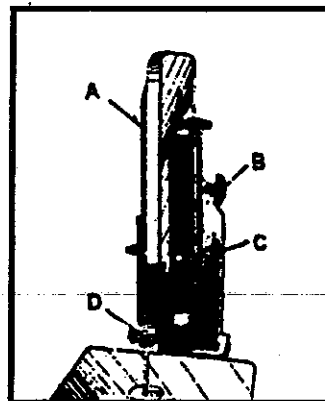

Fig. 19
After tension has been applied to the blade, revolve the wheels slowly forward by hand and watch the blade (A) Fig. 19 to see that it travels in the center of the upper tire. If the blade begins to creep toward the front edge, turn the knob to the left and this will tilt the top of the wheel toward the back of the machine and will draw the blade toward the center of the tire. If the blade creeps toward the back edge, turn the knob to the right. Adjust the knob (B) only a fraction of a turn at a time. Never track the blade while the machine is running.
The upper blade guide assembly (D) Fig. 19, should always be set as close as possible to the top, surface of the material being cut by loosening lock handle (C) and moving the guide assembly (D) to the desired position.